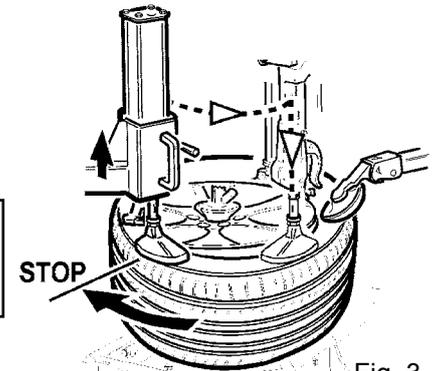

Fig. 3
-If this necessary condition for a correct mounting is not accomplished, use the bead pressing unit pushing its tool onto the tyre side to insert the bead into the drop-centre (fig. 3).